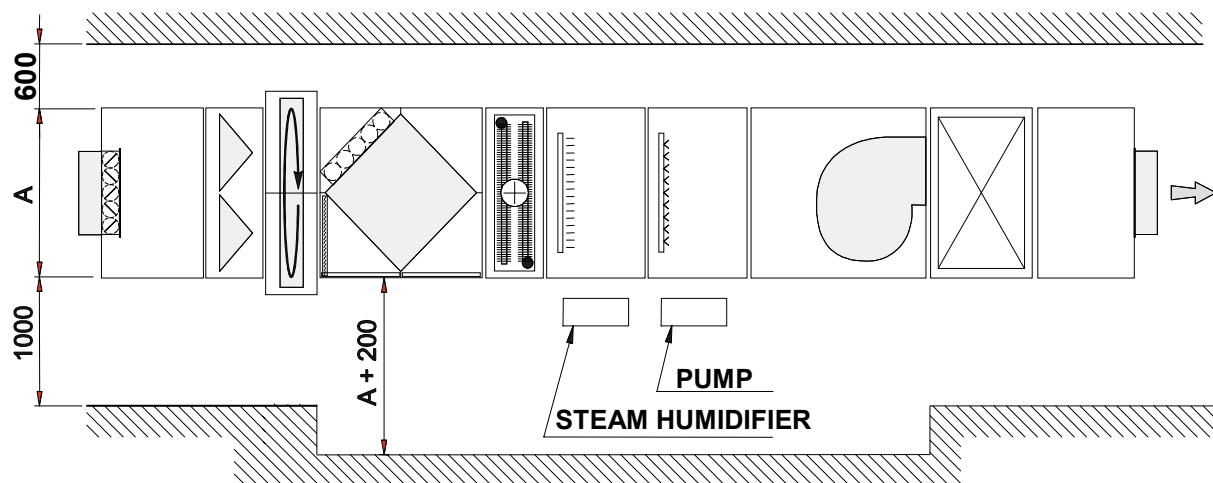

Fig. 1 - Minimum Mounting Clearance (top view, right hand maintenance side)
- Minimum Mounting Clearance must be keep according to fig. 1